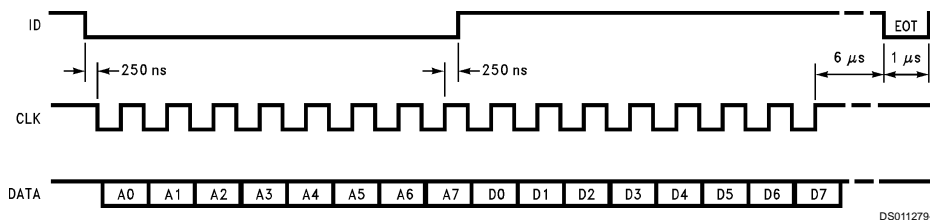

FIGURE 6. LMC1983's INTERMETAL Serial Bus Timing
The LMC1983 uses the INTERMETAL serial bus (IM Bus) standard. Serial data information is sent to the LMC1983 over a three wire IM Bus consisting of Clock (CLK), Data (DATA), and Identity (ID). The DATA line is bidirectional and the CLK and ID lines are unidirectional from the microprocessor or microcontroller to the LMC1983. The LMC1983's bidirectional capability is accomplished by using an open drain output on the DATA line and an external 1 kΩ pull-up resistor. The LMC1983 responds to address values from 01000000 (4016) through 01000111 (4716). The addresses select one of the eight available functions (see Table 1). The IM Bus' lines have a logic high standby state when using TTL logic levels. As shown in Figure 6, data transmission is initiated by low levels on CLK and ID. Next, eight address bits are sent. This address information includes the code to select one of the LMC1983's desired functions. Each address bit is clocked in on the rising edge of CLK. The ID line is taken high after the eight bits of address data are received by the LMC1983.